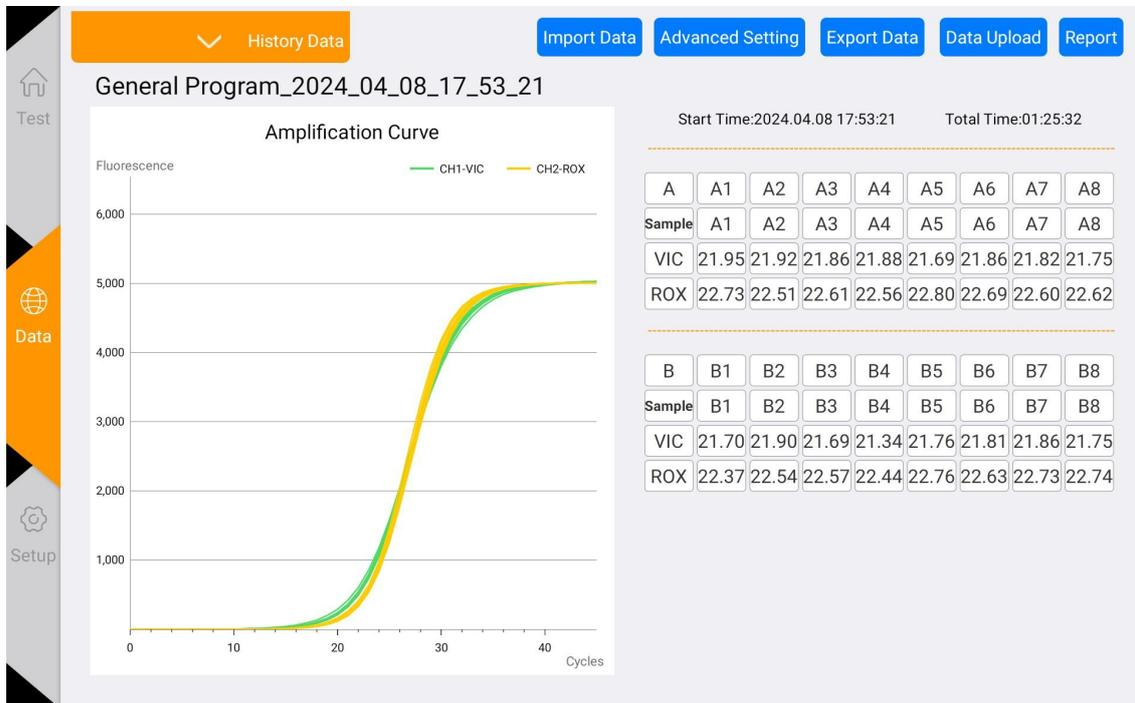

Figure 4-5-1 Result analysis interface
- 1) Click the "Data" button on the main page to enter the "Result Analysis" page, as shown in Figure 4-5-1.